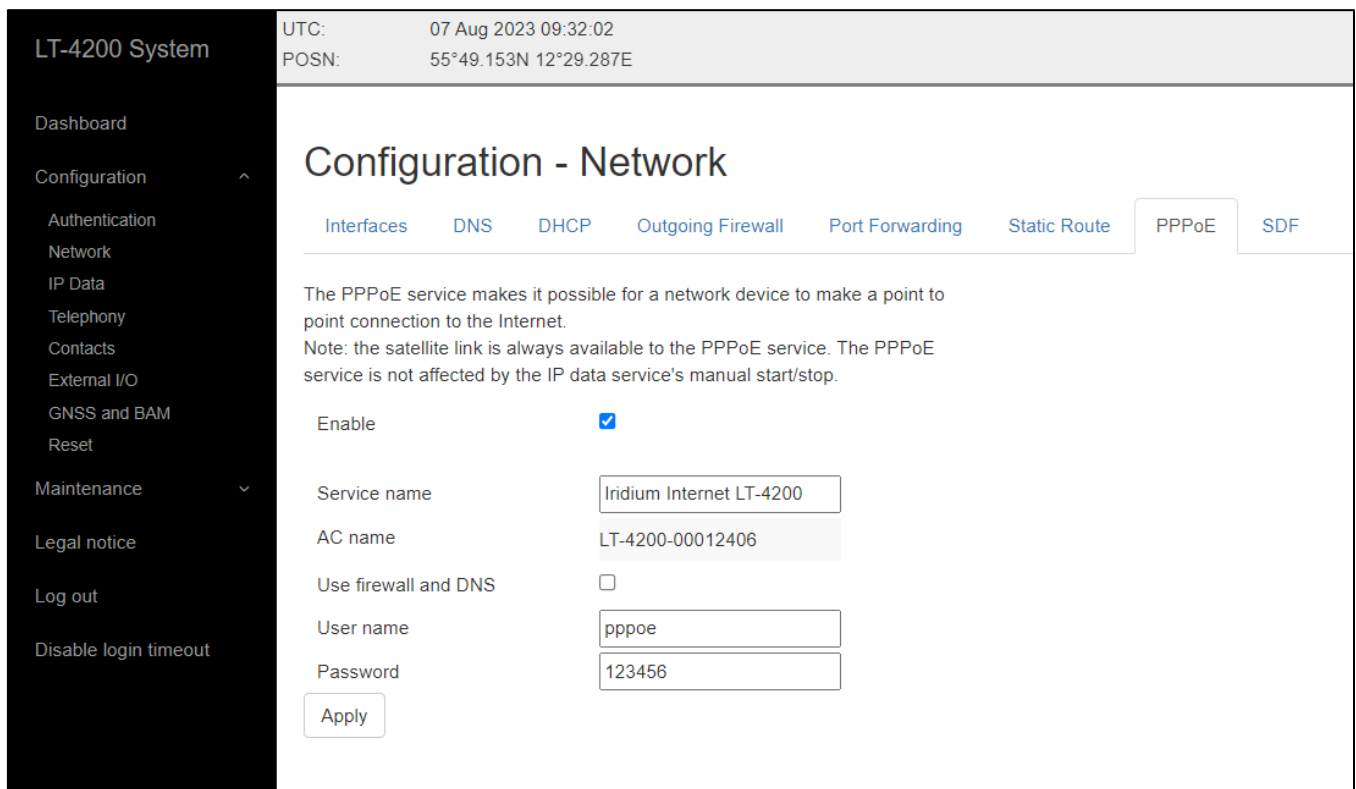

Figure 112: Web server – Network (PPPoE)
The PPPoE connection must be configured by setting up the Service name, Access Concentrator (AC) name, User name and Password. See Figure 112 for configuration.